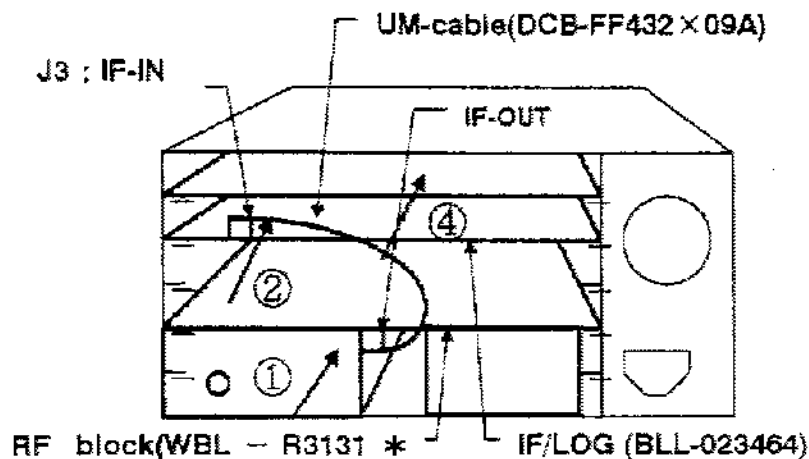
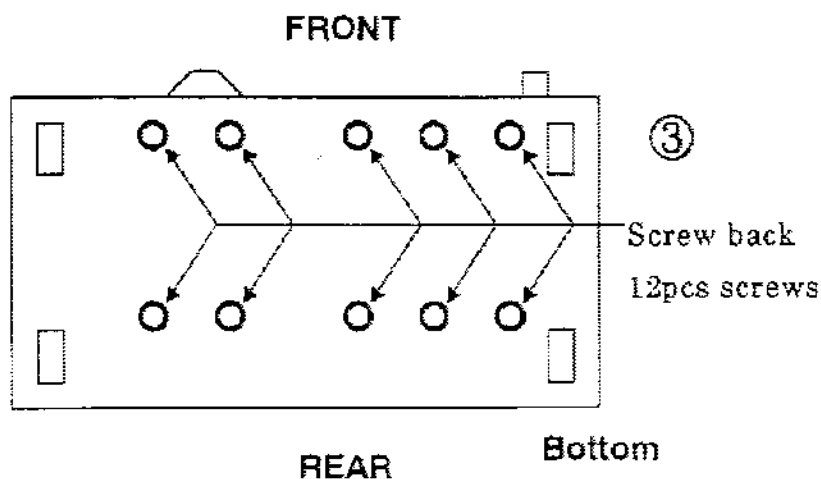

Fig.15
Fig.16
Refer to Fig.15.
Process number such as ①, ② are same as number of Fig.15.
- ① Push RF block into main frame.
- ② Connect UM cable between IF board and RF block.
- ③ Screw back 12pcs screws on bottom of chassis.(Refer to Fig.16)
- ④ Push CPU/AD (BLL-023465) board into main frame.